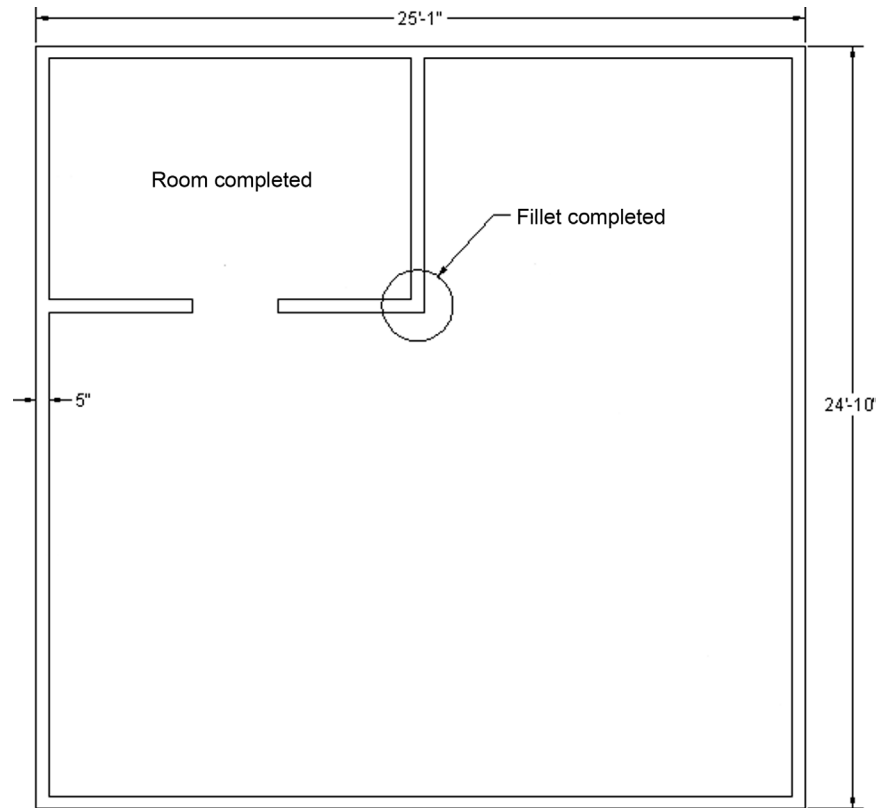

FIGURE 3.16 Floor plan, Step 11.
11. Trim out the extra line where each inner wall meets the main wall. Fig. 3.16 shows you what you should see so far (be sure to ask your instructor if something is not working out).